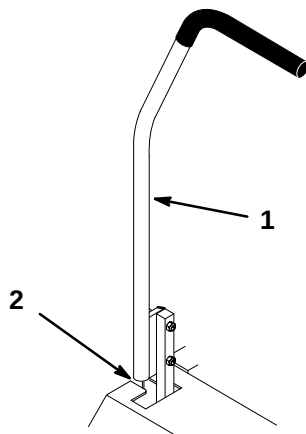

Figure 46
3. Check where lever is relative to notch in console (should be centered allowing lever to pivot outward to the neutral lock position (Fig. 46).